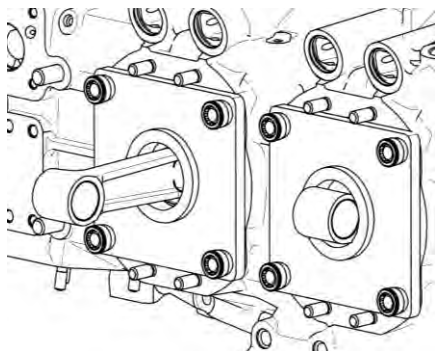

Figure 19
- (1) Install Torque Hold-Down Plates (ST-222) as shown in Figure 19.